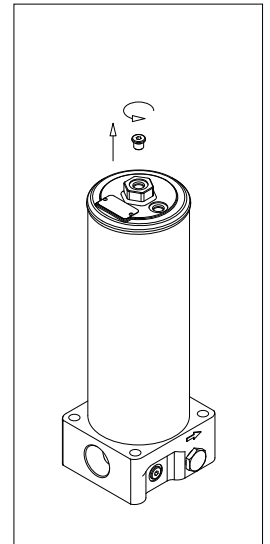

fig. 10
- (Fig. 10) Unscrew the breather plug of the CLEAN SIDE (located in the centre of the hexagon)